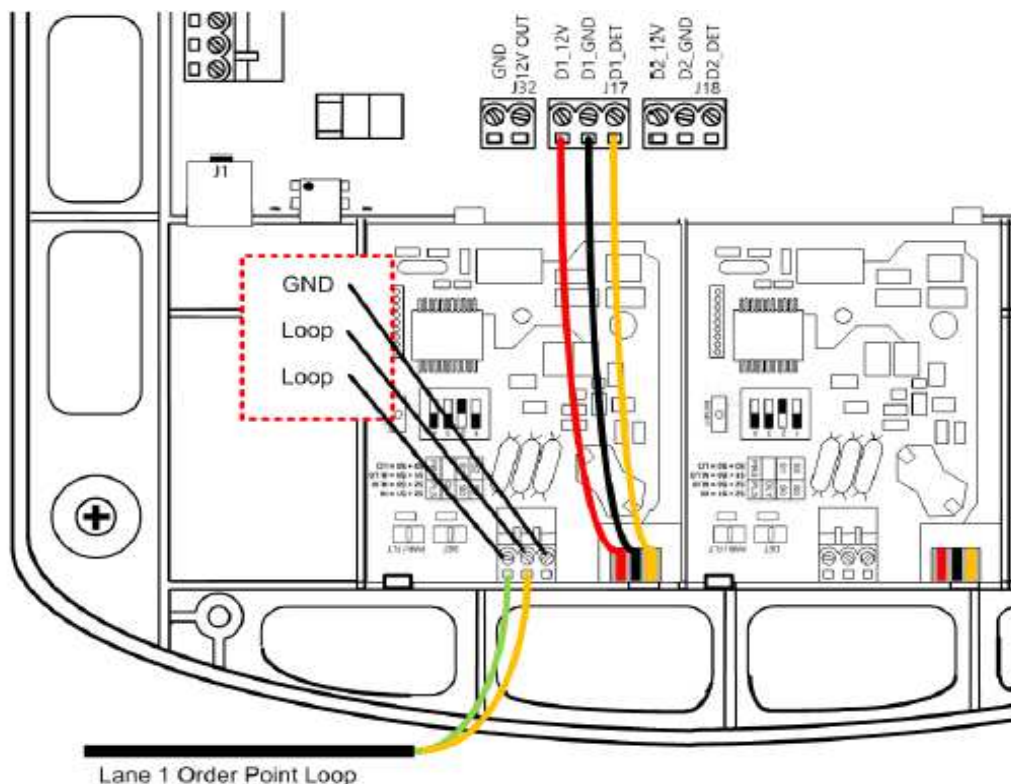

Figure 19.
- Carefully install the three wires between the vehicle detector board and the Basestation board (see Figure 19). The left-to-right pin order is the same on both boards: the left pin on one corresponds to the left pin on the other.